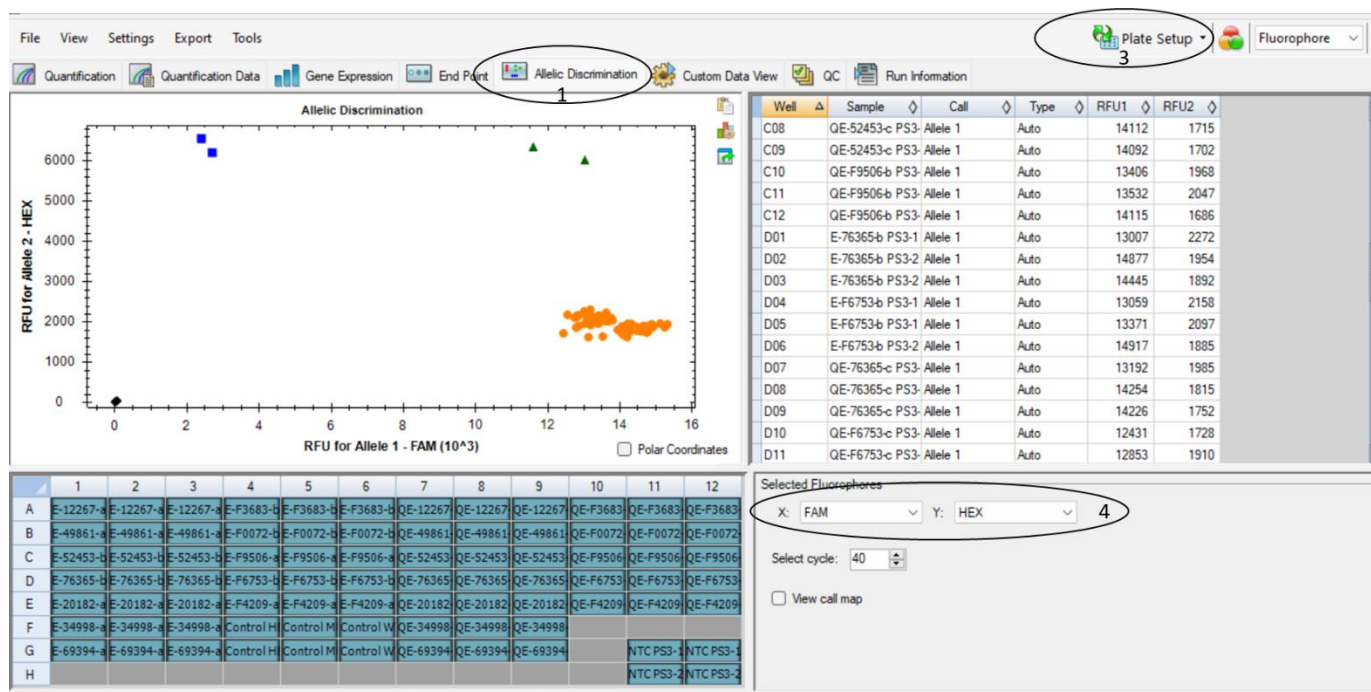
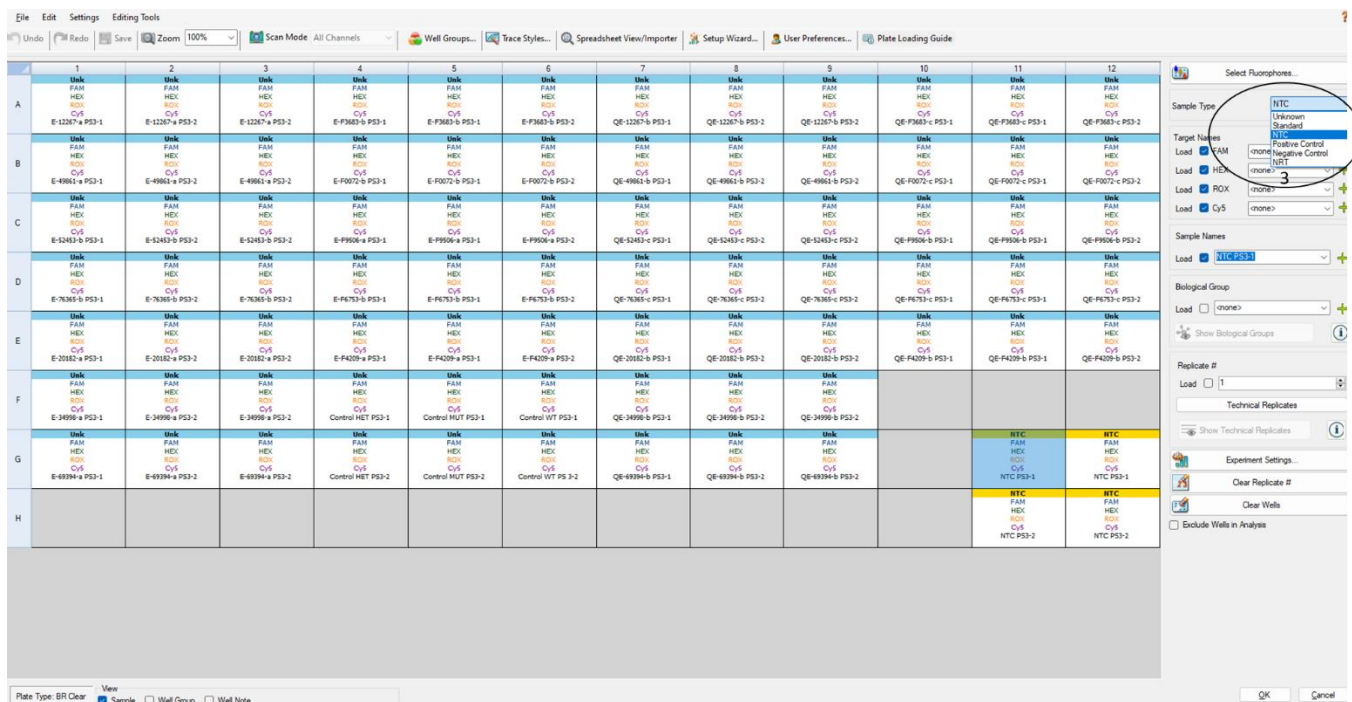
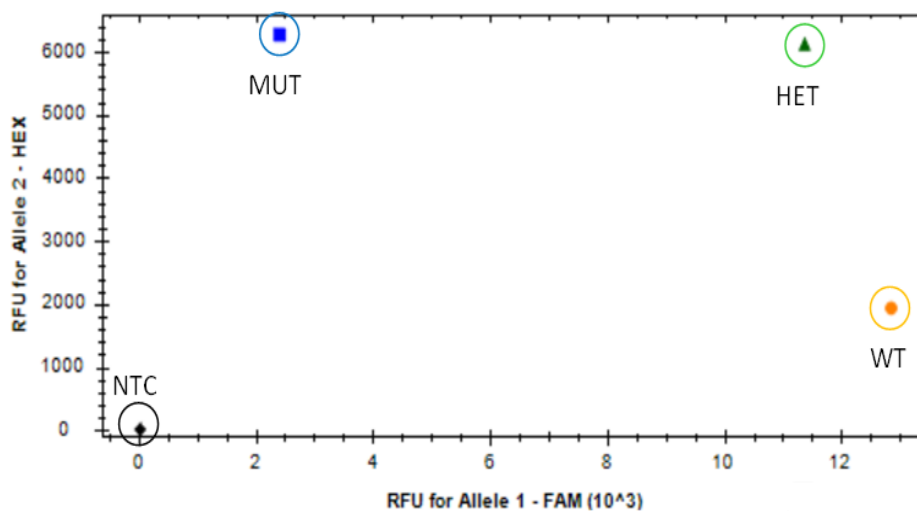
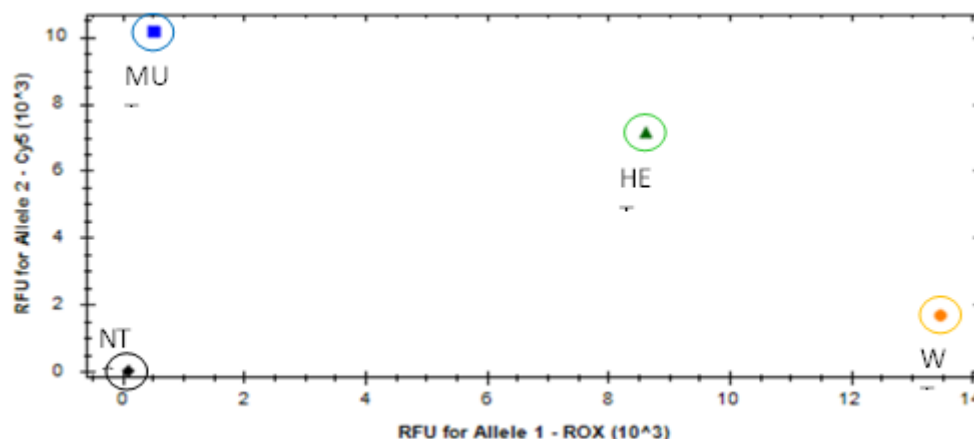

Figure 1: EXAMPLE TO GO TO ALLELIC DISCRIMINATION TAB (1) PLATE SET UP B (3) AND SELECTION OF FLUOROPHORE (4) HERE FOR FACTOR II FAM ET HEX
Figure 2: EXAMPLE OF PLATE SET UP TAB TO SET THE NTC (3)
Figure 3: EXAMPLE OF RESULTS TO BE OBTAINED FOR CONTROLS AND NTC (VALID IN FACTOR FII FAM-HEX CONFIGURATION)
Figure 4: EXAMPLE OF RESULTS TO BE OBTAINED FOR CONTROLS AND NTC (VALID IN FACTOR V ROX-Cy5 CONFIGURATION)
- Go to the Allelic discrimination tab (**Figure 1**)
- Plate Setup: View/Edit Plate; Sample Type = NTC (**Figure 1** and **Figure 2**)
- Select fluorophores X: FAM and Y: HEX to check that Factor II (**Figure 1**) controls are correctly identified as follows (**Figure 3** and **Figure 4** below):
Once the above parameters have been set, the thermal cycler software automatically outputs the results. Results to be obtained for controls and NTCs are presented in **Figure 3** and **Figure 4** below: